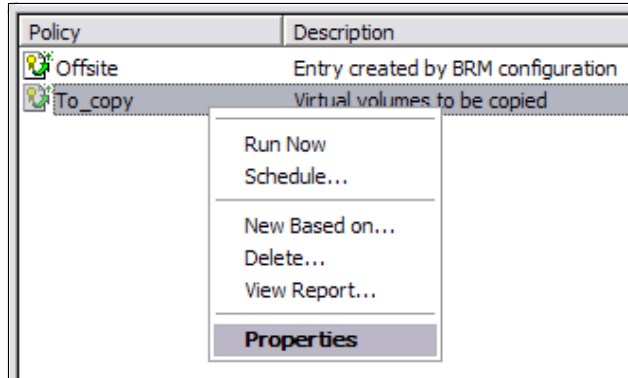

Figure 7-11 Properties
1. Right-click your move policy **TO\_COPY** and select **Properties** as shown in Figure 7-11 on page 343.